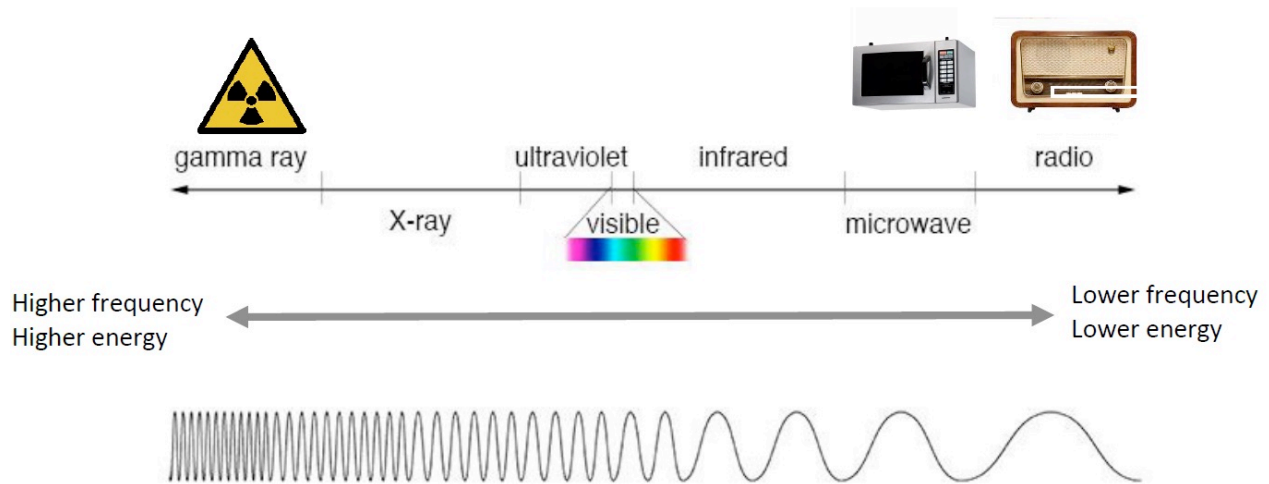

Figure 1.3
It is important to understand that radio frequency (RF) operates at a very low frequency (27.120 ± 0.163 MHz), which is similar to a mobile phone or a transistor radio (Figure 1.3). Ziel equipment, is designed to harness and control those gentle waves and apply them to a very specific and regulated cavity in the RF machine.
The Radio Frequency waves emanated by the RFX 7 are **NON-IONIZING** electromagnetic waves. Substances exposed to these waves are not subjected to irradiation. A comparison of RF waves to other waves and frequencies on the spectrum is illustrated in Figure 1.3.